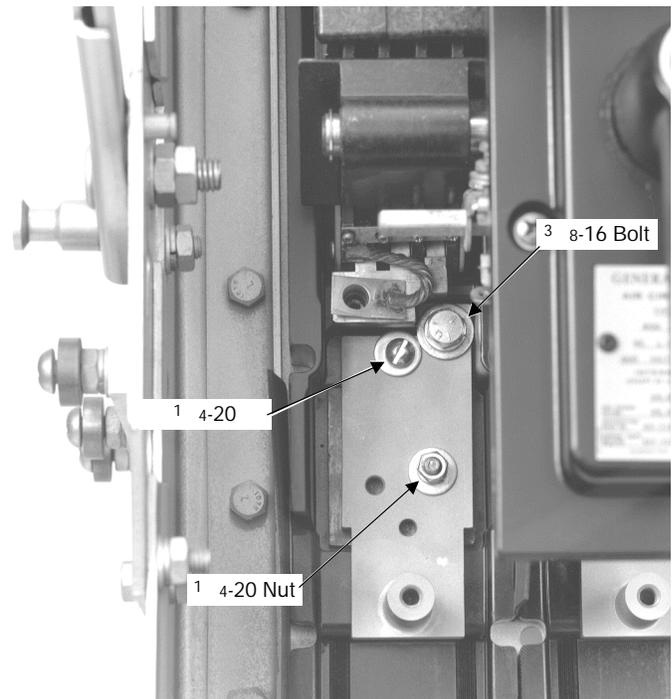

Figure 5. Bottom bus installation.
1. Place the bottom copper bus in the breaker frame and insert the 1 4-20 x 7 8" screw with a flat and lock washer, as shown in Figure 5.
2. Insert the 3 8-20 x 1 4" bolt with a flat and lock washer through the electrical contact hole in the top of the bus, as shown in Figure 5.
4. Use the 1 4-20 nut, flat washer, and lock washer on the screw inserted in step 3 to fasten the bus, as shown in Figure 5.